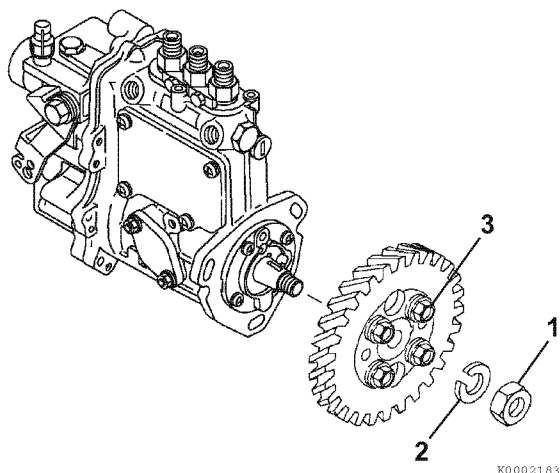

Figure 6-44
4. Do not remove the fuel injection pump drive gear unless absolutely necessary due to damage to the gear or pump. Do not loosen or remove the four bolts (3, **Figure 6-44**) retaining pump drive gear to the hub. Only remove the nut (1, **Figure 6-44**) and washer (2, **Figure 6-44**), leaving the hub attached to the gear. Remove the pump drive gear and hub as an assembly using a gear puller.